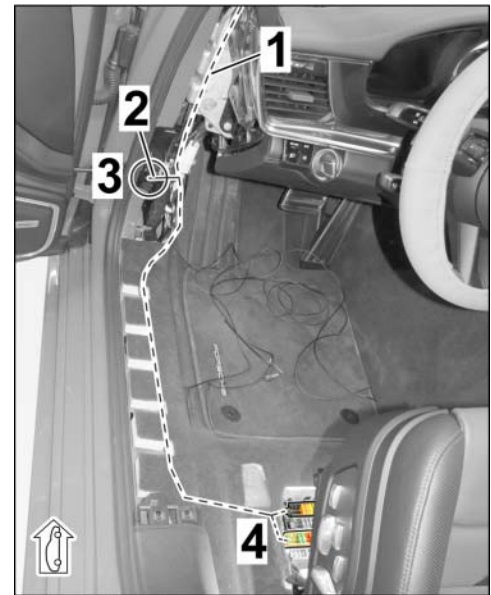

Figure 15
3.2.6 Route the rest of the wire harness as follows (⇒ *Figure 15*):